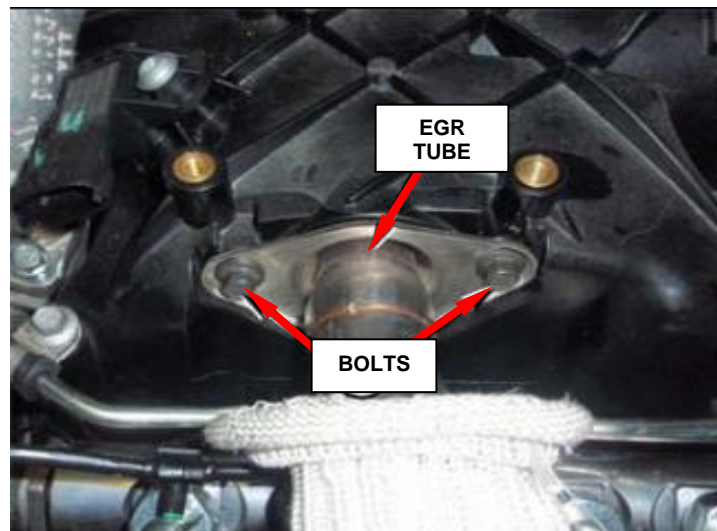

Figure 15 – EGR Tube Mount at Intake
14. Remove the EGR bolts (2) at the intake manifold (Figure 15).
15. Remove the EGR tube and **DISCARD** the metal gasket (Figure 15).